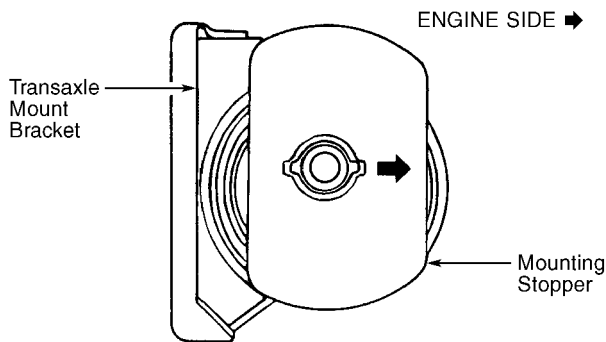

Fig. 4: Installing Transaxle Assembly Mounting Stopper (3000GT)
3) To install remaining components, reverse removal procedure. Install mounting stoppers as shown in illustration. See Fig. 4.